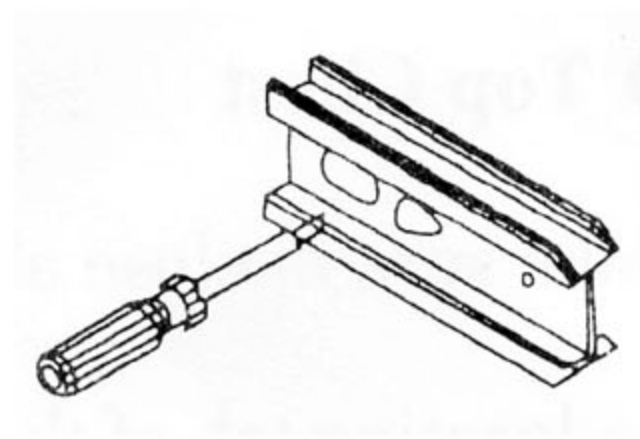

Figure 2
- 3) To re-install drawer, pry stop far enough out to engage lances ($3/16"$ to $1/4"$) and push drawer onto slide until stops engage the lances. (See **Figure 2**)